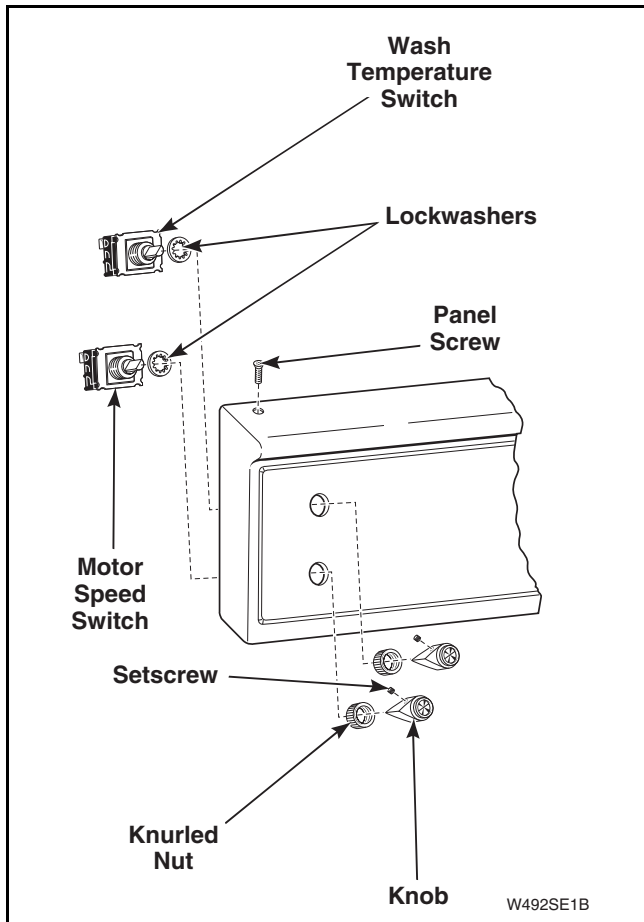

Figure 9
- (2) Loosen setscrew holding switch knob to switch shaft. Refer to *Figure 9*.
- (3) Remove knurled nut holding switch to control panel. Refer to *Figure 9*.
NOTE: Lockwasher must be between switch and control panel when installing switch. Refer to *Figure 9*.